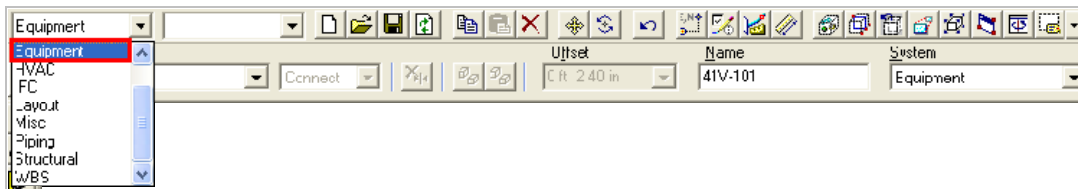

Figure 14: Active Permissions Group Selected
14. Set the Active Permission Group to **Equipment** as shown in Figure 14.